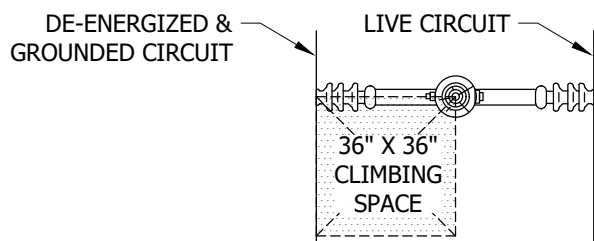

FIGURE 1 Ib
- ONE OR BOTH CIRCUITS ARE DE-ENERGIZED, BOND WIRES AND DE-ENERGIZED CIRCUIT ARE GROUNDED, AND CLIMBING SPACE IS PROVIDED AS SHOWN IN FIGURES 1 & 2.